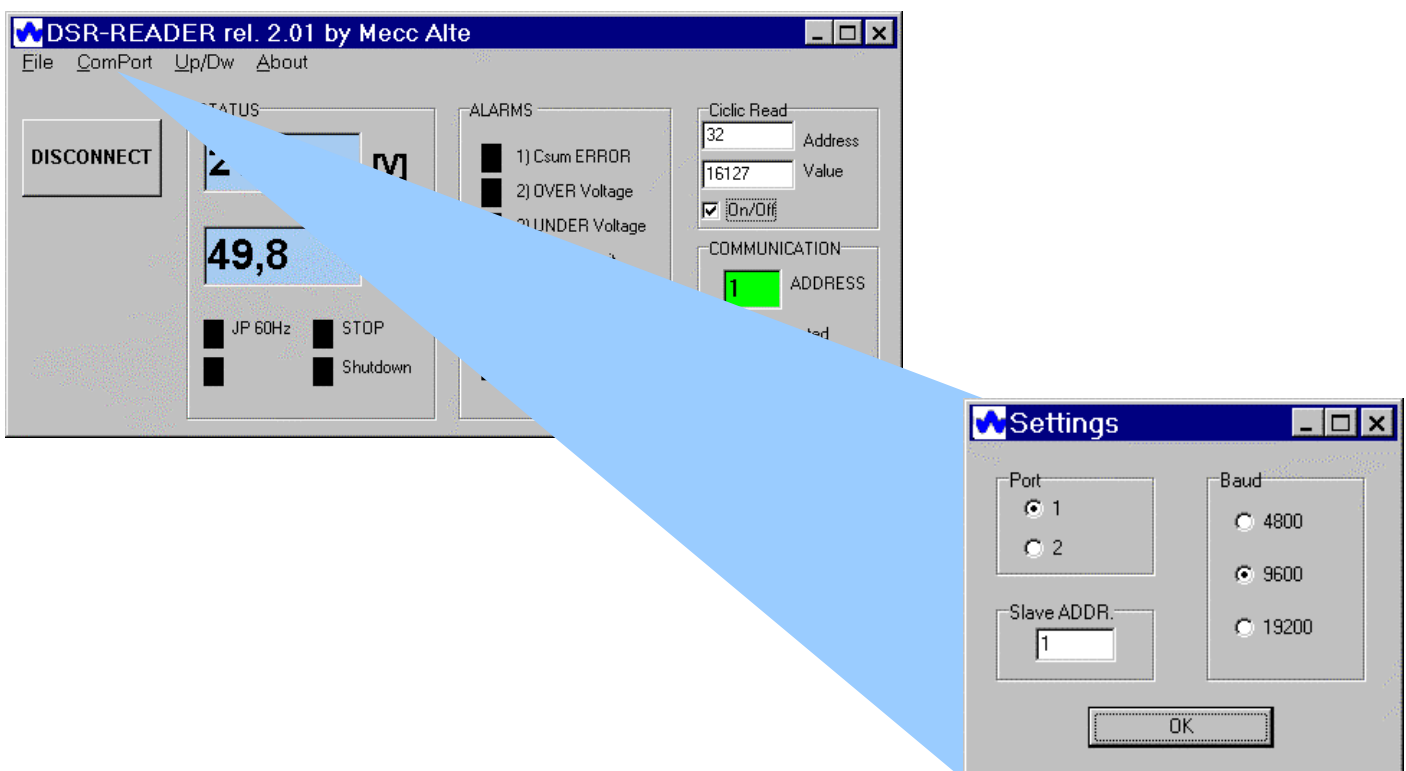

Fig. 14: DSR_Reader user interface and Settings menu
Upon opening the user interface, the program is presented as indicated in the left part of figure 14.
2. **Settings** opens a window (as shown in figure 14), through which several parameters, concerning communications, can be set: